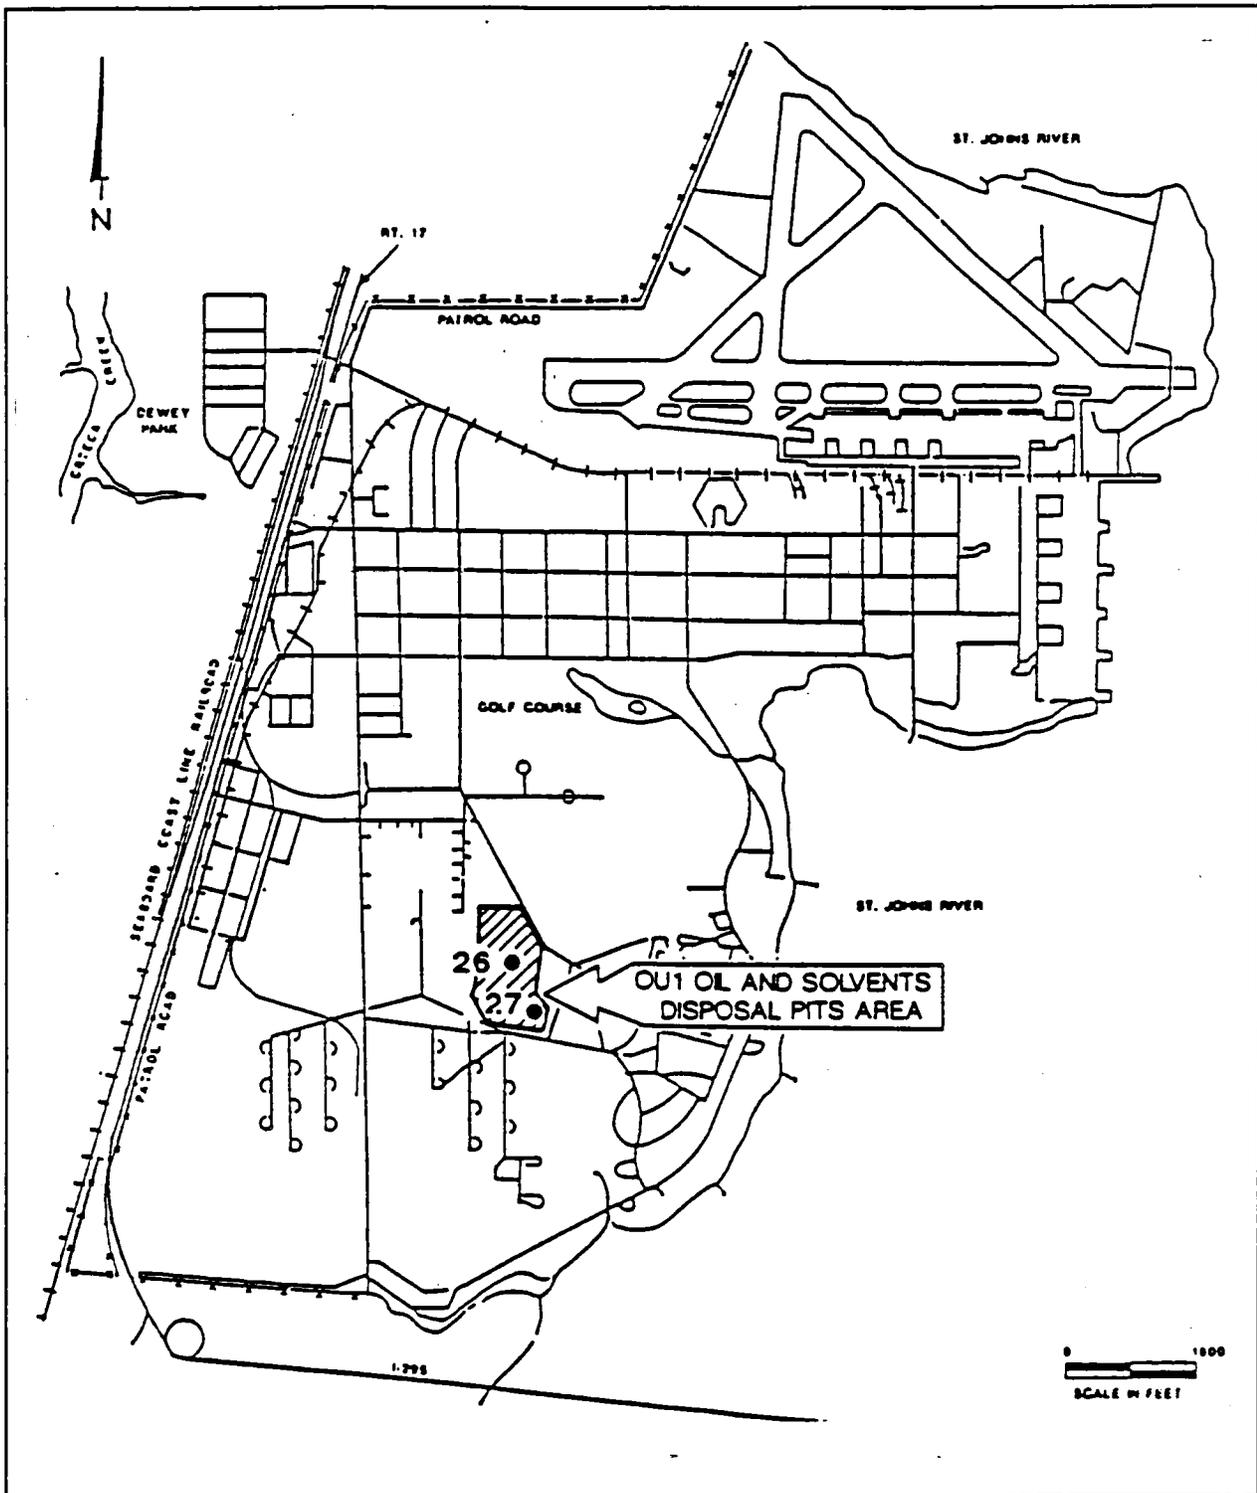
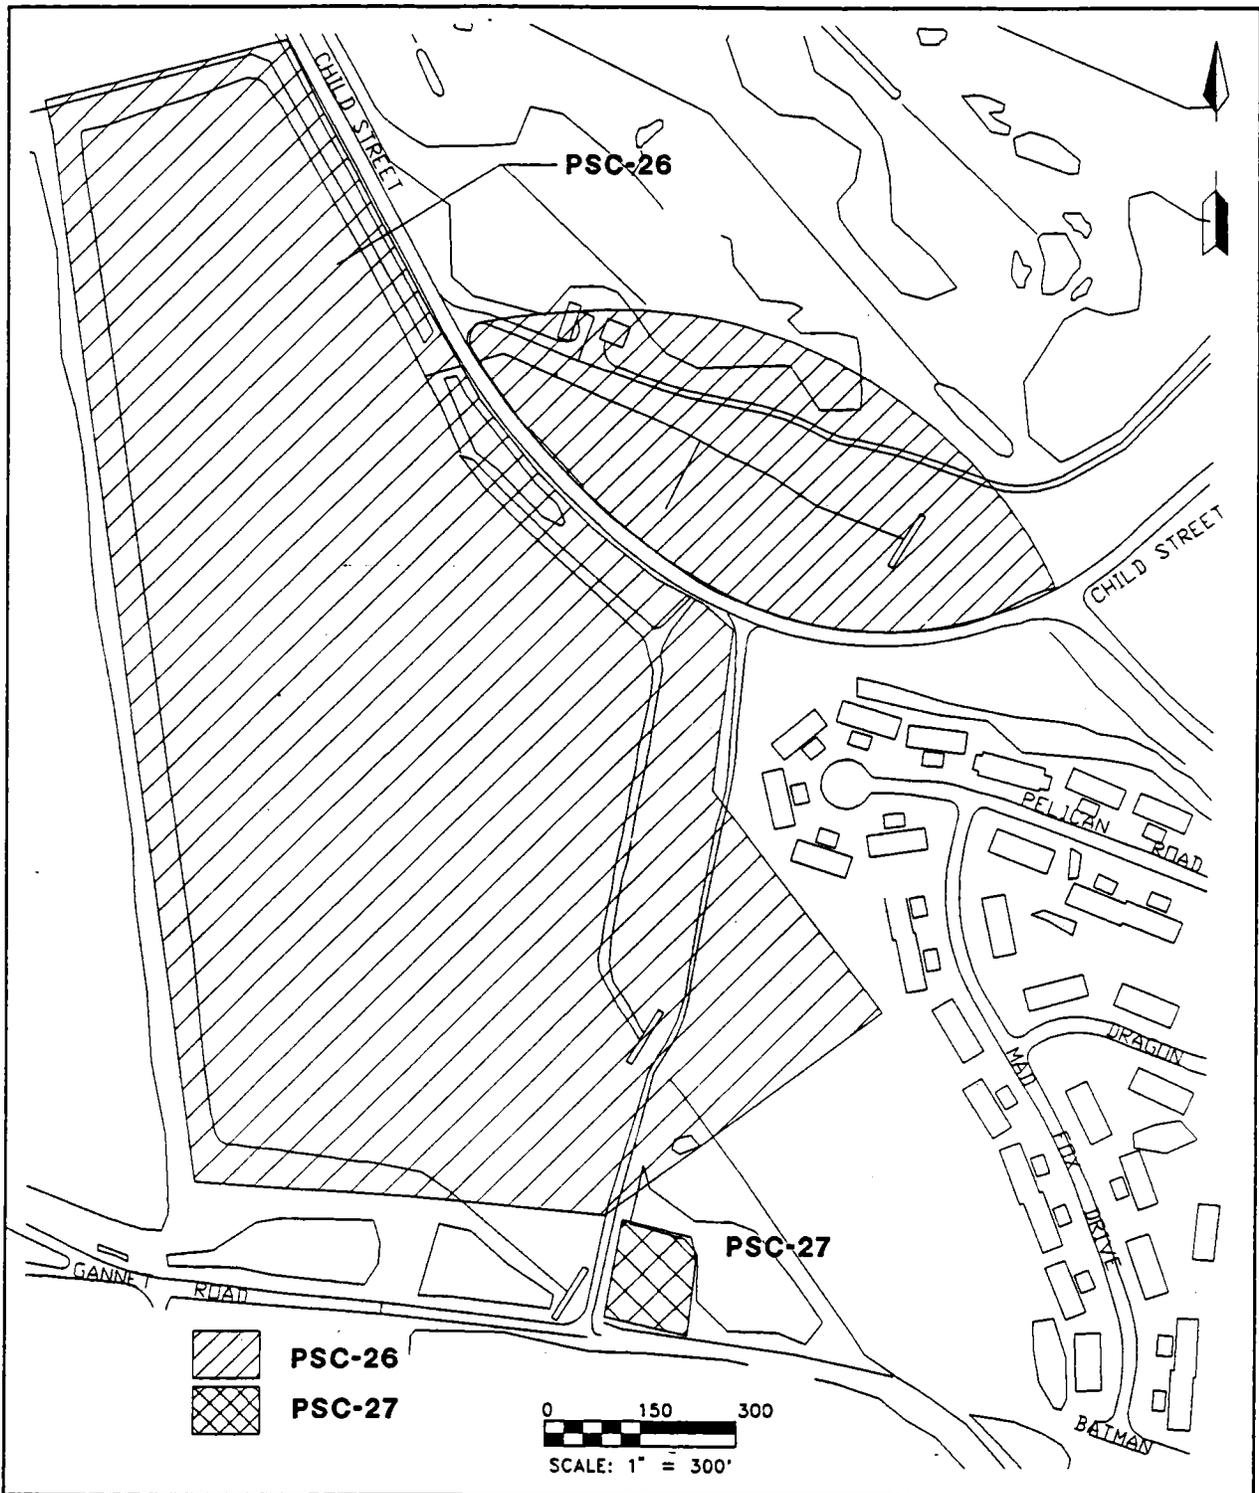

FIGURE 2-1
FIGURE 2-2
2.1 SITE NAME, LOCATION, AND SIZE Operable Unit 1 (OU1) is located in the south-central area of Navel Air Station-Jacksonville (NAS/JAX) (Figure 2-1). It is northwest of the intersection of Thrush Road and Gannet Road and southwest of Child Street (Figure 2-2). OU1 is also known as the Old Main Registered Disposal Area which is comprised of Potential Source of Contamination No. 26 (PSC 26) and the former PCB Storage Area PSC 27.
PSC 27 the former PCB Storage Area is located on the southeastern edge of OU1 (Figure 2-2). PSC 27 was used for the outdoor storage of transformers containing PCB oils. Reportedly, vandalism to the transformers in 1978 resulted in other spillage of transformer oil on the ground.